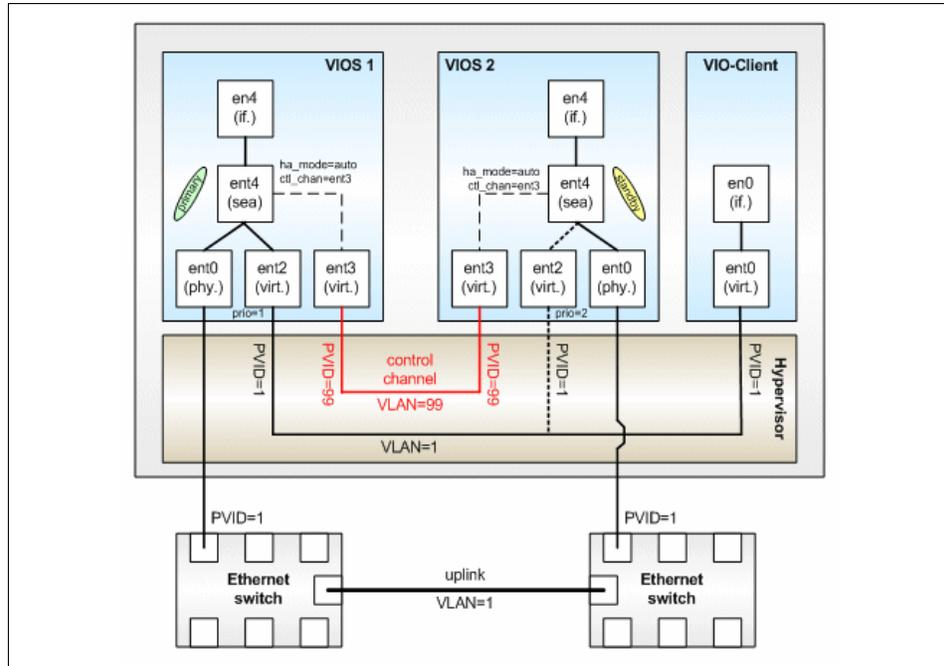

Figure 4-17 Highly available SEA adapter setup
Figure 4-17 shows the intended solution for a highly available Shared Ethernet Adapter.
**Note:** The two adapters you are creating need to be on a PVID that is unique for both (for example, both adapters must have the same PVID, and the PVID must not be used by any other adapter on the machine). As Figure 4-17 on page 212 shows, we put them on VLAN 99.